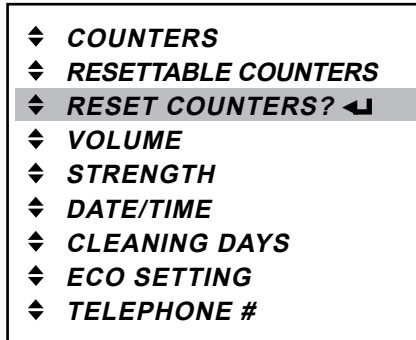

Fig. 34
- In the operator mode, press the enter button ◀ to access the «RESET COUNTERS?» menu (fig. 34).